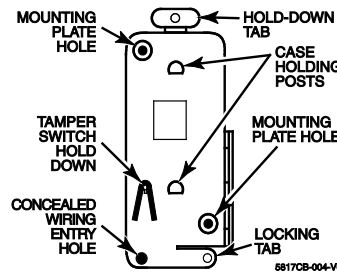
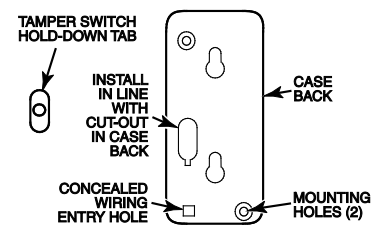
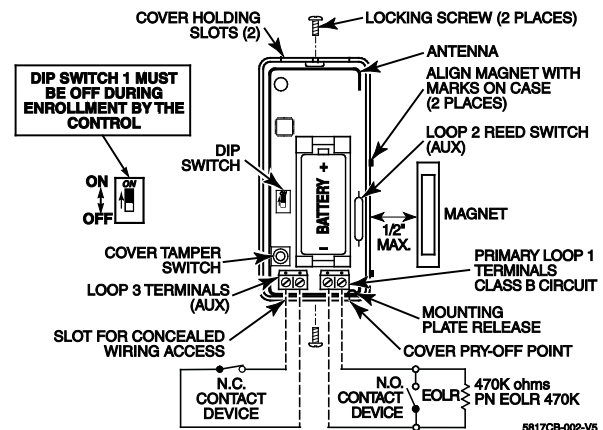

Figure 1. Mounting Plate
Figure 2. Case Back
Figure 3. 5817CBXT Transmitter, Top Cover Removed
3. Disengage the mounting plate from the case back by inserting the blade of a small screwdriver into the mounting plate release hole (see Figure 3) and pushing the locking tab out (see Figure 1). Slide the mounting plate downward along the case back.
- a. Make note of the location of the tamper switch hold-down as shown in Fig. 1 for the proper placing of the hold-down tab in Fig. 2.
- c. In the area that was marked, install the hold-down tab with a 5/8" flat head dry-wall screw. The tab must be aligned with the corresponding slot in the case back as shown in Figure 2. The tab as well as the case back must be anchored to a wall stud or other solid wood material.
- a. In order for the control panel to enroll the transmitter, DIP switch 1 **must** be set to OFF (see Figure 3).
Connect the loop wiring to the unit's terminals before installing the battery (see Figure 3).
- 2. Observe correct polarity and insert the battery provided into the battery holder (see Figure 3). Take care not to bend the antenna.